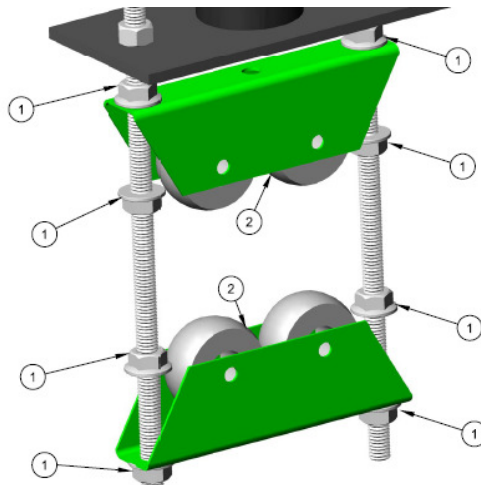

Figure 3. Carrier installation (double carrier shown).
5. Referring to figure 3, a 1/2"-13 Whiz lock nut (item 1) should be threaded onto each threaded rod and spun towards the carrier mount a sufficient distance to allow the carrier (item 2) to be installed and a second nut (item 1) threaded onto each rod to retain the carrier. If a double carrier is indicated as being used on the production drawings, then the process must be repeated to complete the installation.
**Note that a single carrier will be installed the same as the lower carrier (item 2) shown in figure 3. Also, note that in either case enough space must be left above the lower carrier to allow a 2-3/8" diameter pipe to slide in.**